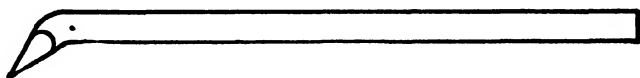

FIG. 48
22. Bend all of the taper over the edge of the anvil to an angle of about 20 degrees. Fig. 48.